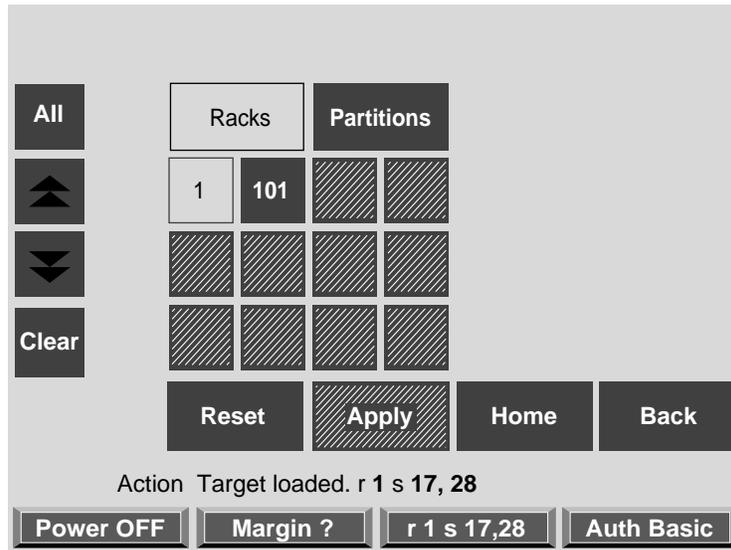

Figure 2-13 Target Indicator at Bottom of Display
- From the **Bricks on Rack** segment of the display, touch your brick selections. For example, touch 17 and 28. After you have made your brick selections, touch **Apply**. Your selection will be reflected in the target indicator across the bottom of the display as shown in Figure 2-13. The target will show “r 1 s 17, 28,” which indicates that you have selected slots (bricks) 17 and 28 from rack 1 on your server to power on.